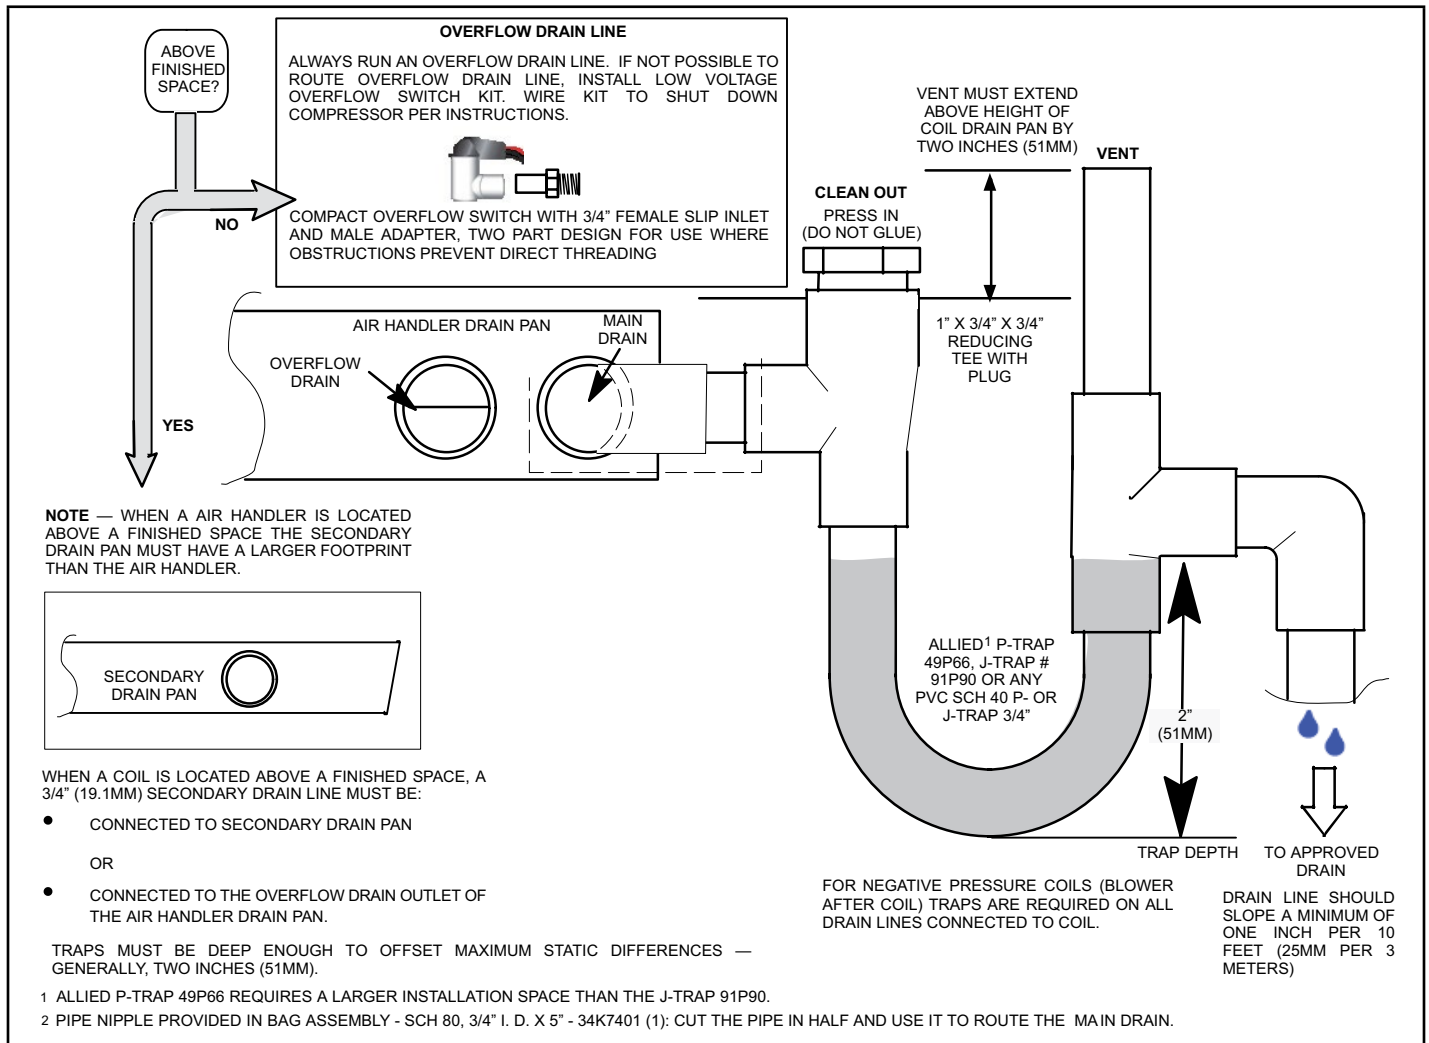

FIGURE 27. Typical Main and Overflow Drain Installations
Connect the main drain and route downward to drain line or sump. Do not connect drain to a closed waste system. See Figure 27 for typical drain trap configuration.
- 6 - Install a 2" trap in the main (primary) drain lines as close to the unit as practical (see figure 27). Make sure the top of the trap is below the connection to the drain pan to allow complete drainage of the pan.
NOTE - Horizontal runs must have an anti-siphon air vent (standpipe) installed ahead of the horizontal run. See figure 27. An extremely long horizontal run may require an oversized drain line to eliminate air traps.